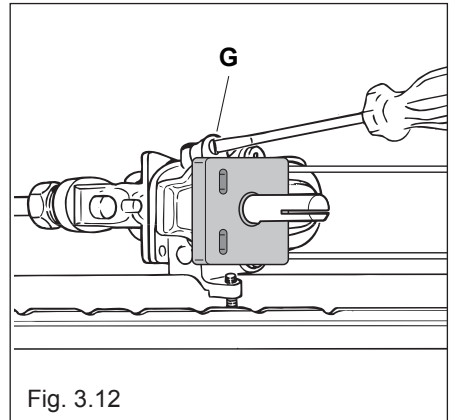

Fig. 3.12
- remove the knob and by a thin screwdriver (3 mm section - 100 mm long) unscrew of about a half turn the screw by-pass "G", passing through the front panel hole (fig. 3.12)